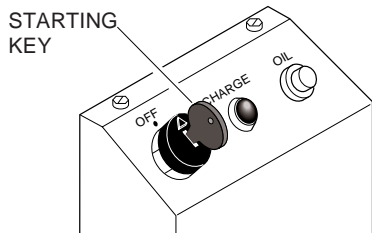

Figure 18 - Starting Key (Model 4W315A only)
- II. Turn the starting key clockwise to the START position (see Figure 18). Hold it there until engine starts.